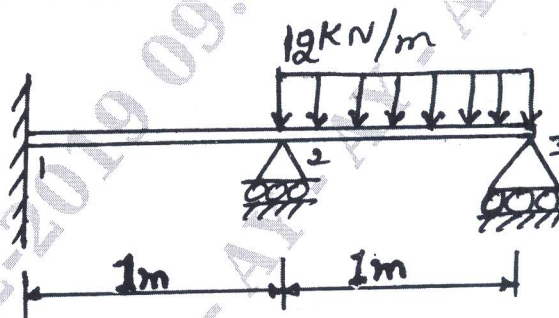

Fig Q9
- 9 For the beam element shown in Fig Q9. Determine deflection under the given load. Take  $E = 200\text{GPa}$  and  $I = 4 \times 10^6\text{mm}^4$ .